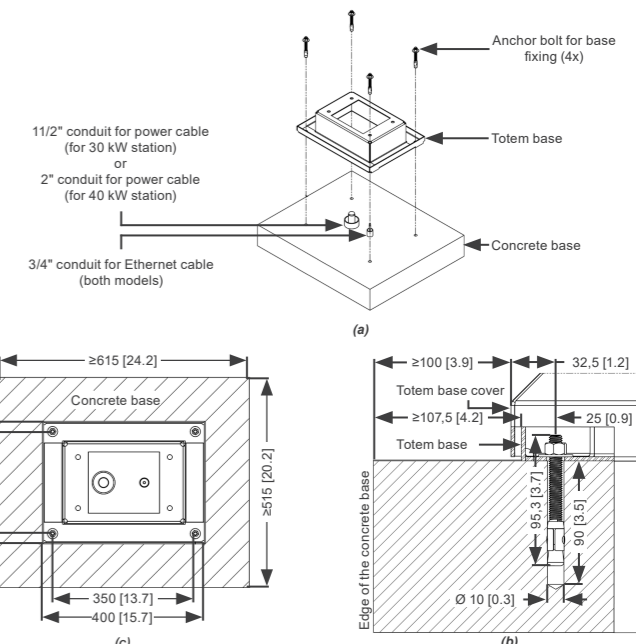

Figure 4.6: (a), (b), and (c) Totem mounting base dimensions - mm [in]
The totem base must be anchored to the concrete foundation using four (04) 3/8" anchor bolts provided with the product, drilled or cast according to the distances shown in Figure 4.6.